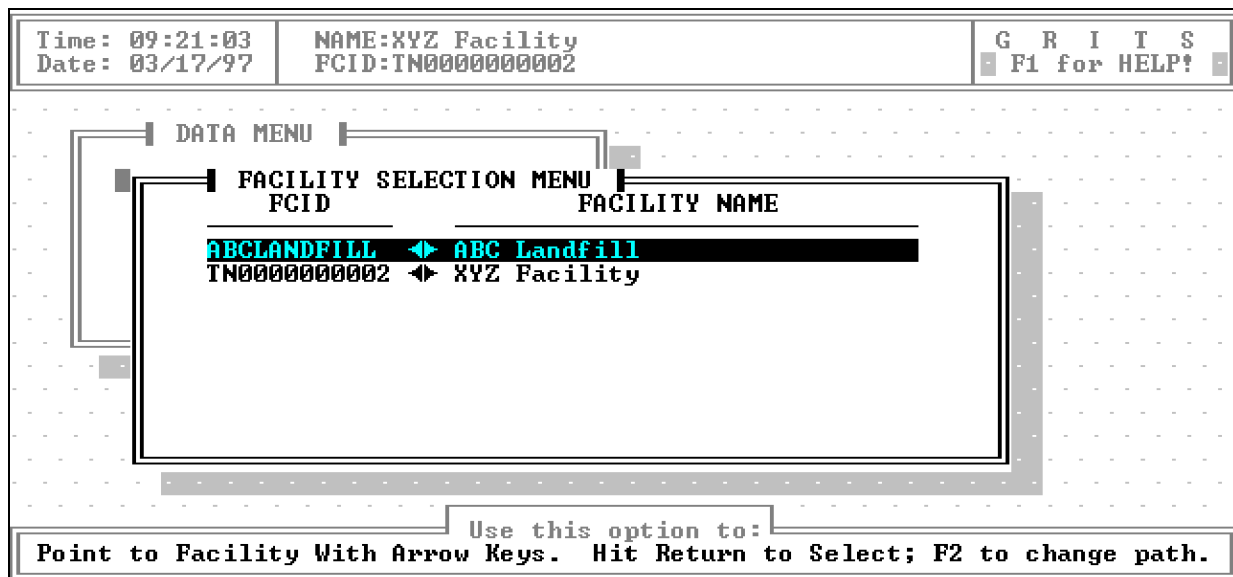

Figure 3-15. The FACILITY SELECTION MENU.
3. A pop-up list of facilities in the currently selected data directory appears on your screen as shown in Figure 3-15. Use the up and down arrow keys to highlight the facility that you wish to edit and press <Enter>.